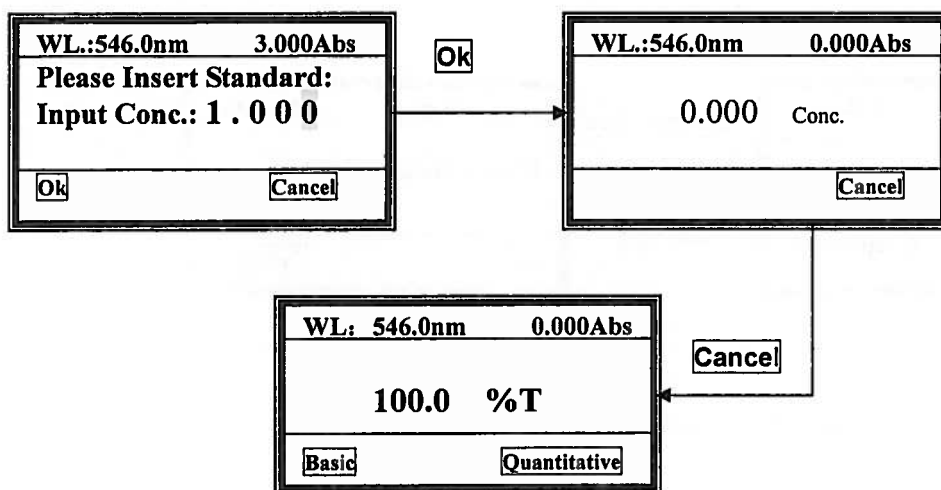

Fig. 3-21 Go into test interface
5) When you have finished the 5th bit, press **Ok** (F1) to go into the test interface. (Fig. 3-21)